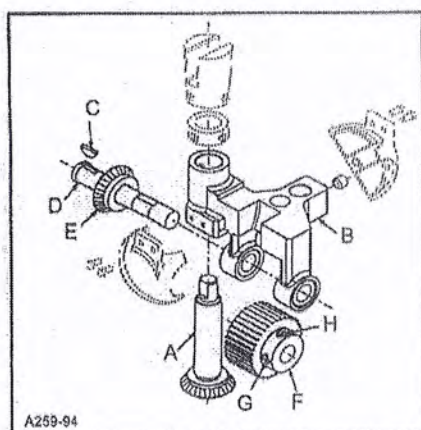

FIG. 16
Assemble driven gear(A, Fig. 16) through feed roller frame (B). Place woodruff key(C) into slot of feed roller shaft (D). Slide drive gear (E) on to shaft (D), make sure key(C) goes into slot in gear(E). While holding feed roller frame (B) with steel roller(F) between the two frame lobes, slide feed roller shaft(D) and assembled components through frame. Make sure that shoulder of roller (F) is to the right. Align screw(G) (first in operating direction on roller) on the flat of shaft (E). At the same time thrust shoulder of shaft(D) against face of gear(E), make sure left edge of roller is against face of gear(E), make sure left edge of roller is against right (inside) face of left lobe. Secure screw(G) on flat of shaft (D) and tighten screw(H).